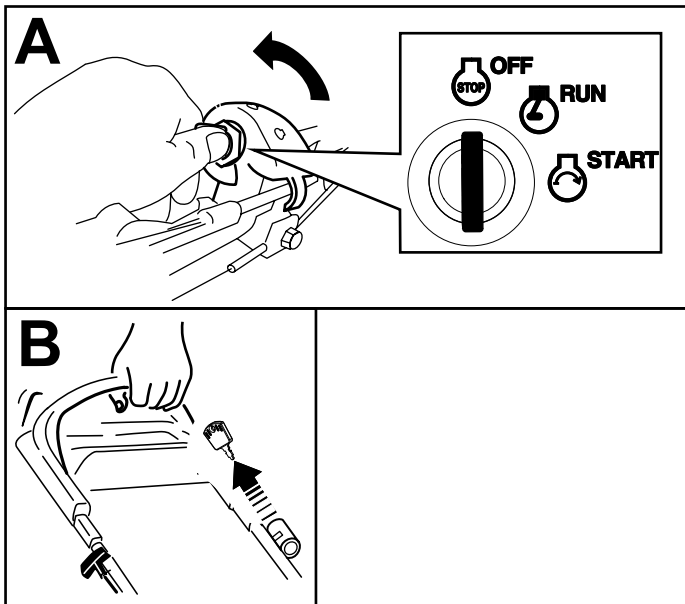

Figure 19
1. Turn the ignition key to the OFF position (A of Figure 19).
2. When the engine shuts off, remove the ignition key and take it with you when you leave the machine (B of Figure 19).